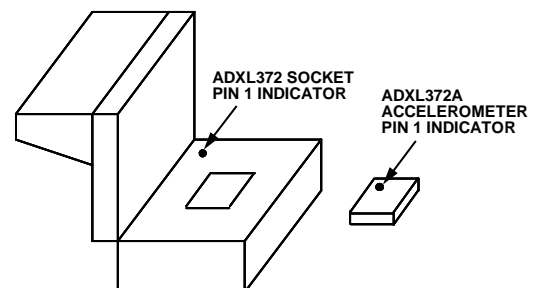

Figure 10. Location of Pin 1 Indicator for the **ADXL372** Accelerometer and Socket
1. Place the **ADXL372** accelerometer into the socket on the satellite board. The Socket Pin 1 indicator is located inside the socket near the hinge, as shown in Figure 10. Ensure that this pin indicator aligns with the Pin 1 indicator on the **ADXL372**.